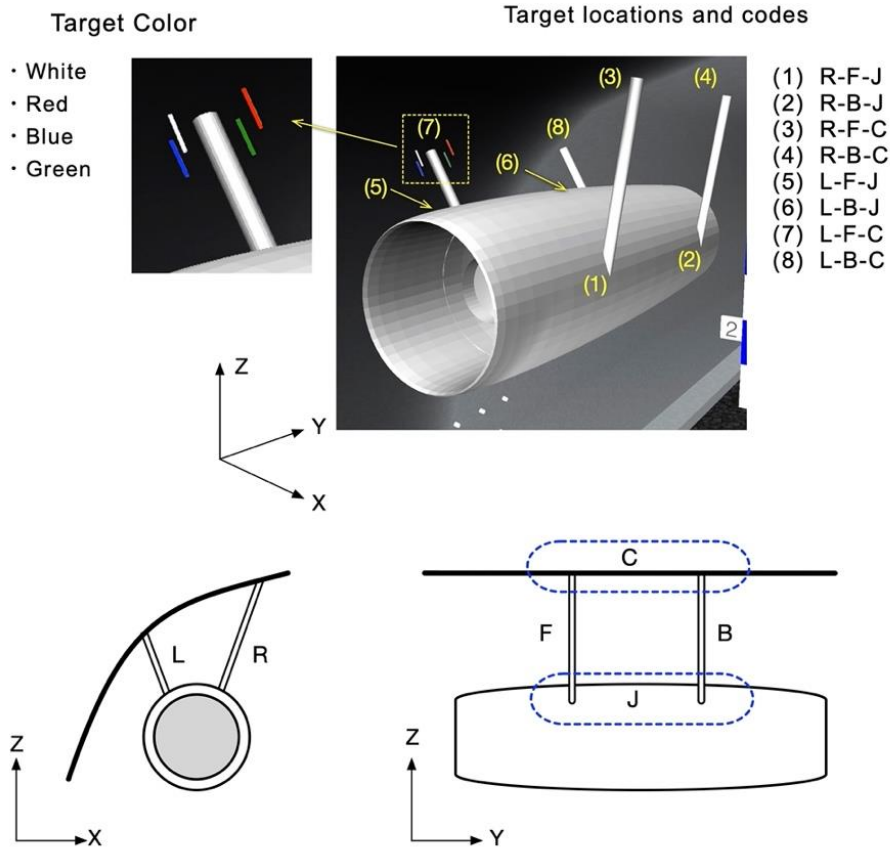

Figure 7-5-1 : Target locations, codes and colors
7.5.2.1.1. Figure 7-5-1 shows the locations, codes and colors of the targets.